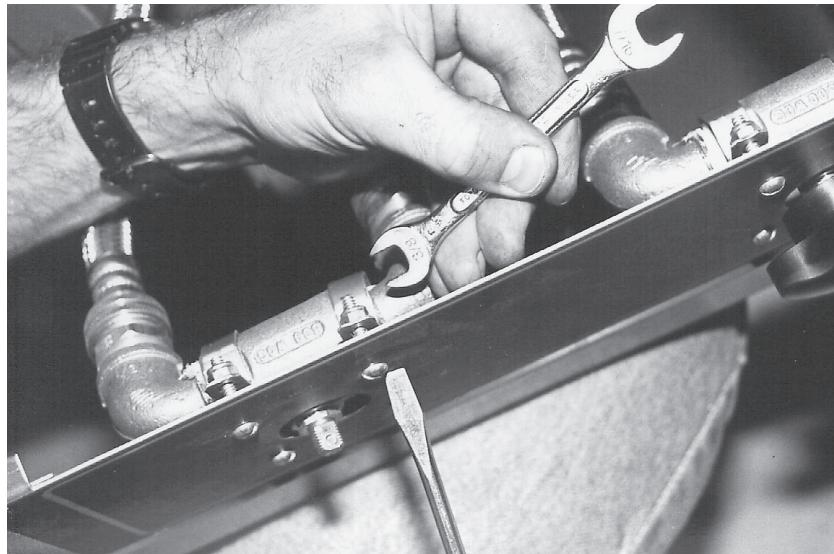

Fig. 14
With a flat blade screwdriver and a  $\frac{5}{16}$ " deep socket or wrench, remove (4) screws securing the water fittings to the control panel. (Fig. 14)